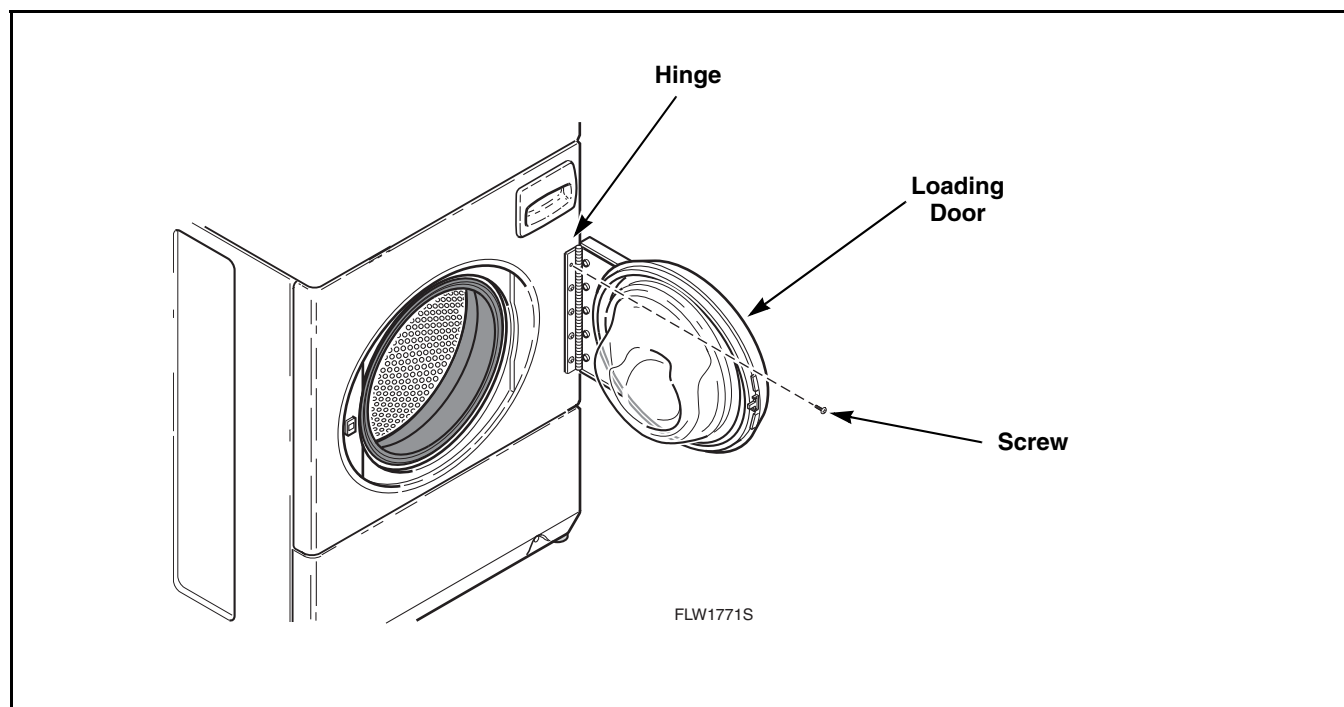

Figure 6
- The loading door can be adjusted up or down somewhat by loosening screws holding door hinge to front panel, then raise or lower door before retightening screws. Refer to *Figure 6*.